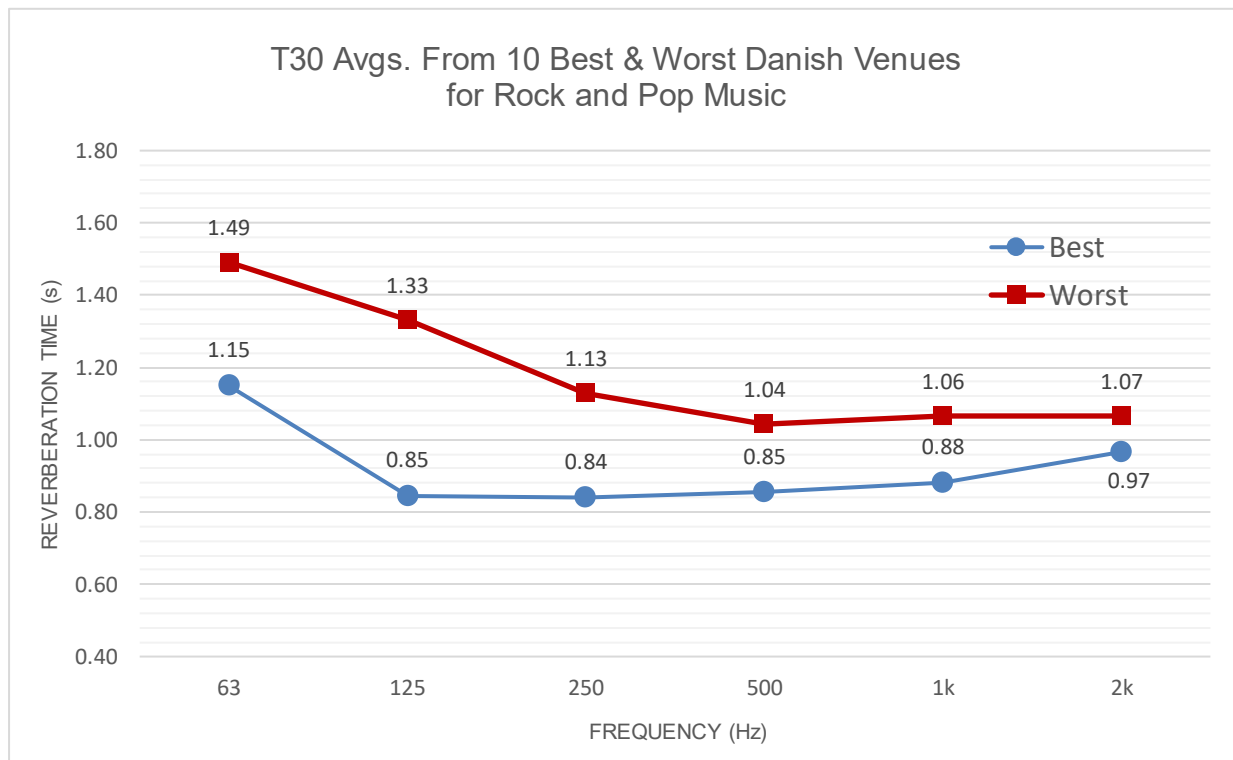

Figure 5 – This is a correction to the Figure 12 chart that was published in 2021. It shows the average T_{30s} of the 10 best and worst venues in Denmark.
* Following its original publication² in May of 2021, I was notified of an error in the data tabulation in what was then Figure 12. The *second* edition of this thesis provided the corrected values, which are shown in Figure 5 below. Also, five new sections were added or updated.
For example, consider the survey done by Dr. Niels Adelman-Larsen (NAL) in his book *Rock and Pop Venues - Acoustics and Architectural Design*.⁵ Figure 5 represents an aggregate of the ten best and worst venues for Rock and Pop music in Denmark.